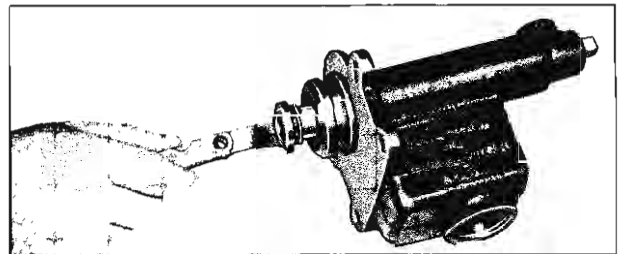

Fig. 21—Checking Main Cylinder Piston Fit
4. Check piston fit in cylinder bore (fig. 21). The clearance between piston and wall of the cylinder should be from .001"-.005".